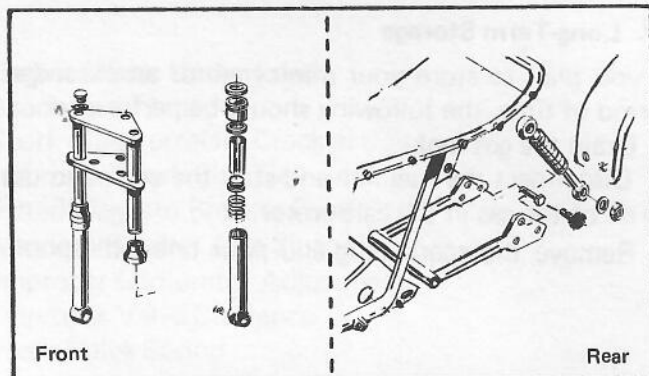

Figure 12. Checking Shocks
- STEP 2** Unscrew the retaining nut and remove the lower shock tube (see figure 12).
The rear suspension is equipped with a heavy duty automotive type shock absorber. See figure 12. Make sure that all dirt is washed out of the springs and off the main shaft (inside spring) with each cleaning. Periodically apply a few drops of oil to the main shaft.